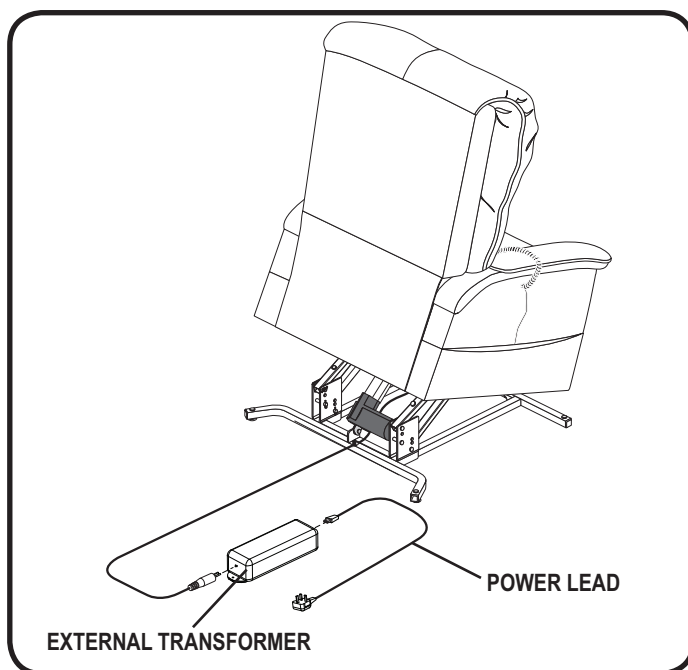

Figure 4.3 Power Lift Recliner Battery Backup Location
3. Install two 9V batteries into the external transformer (**Fig. 4.3**).